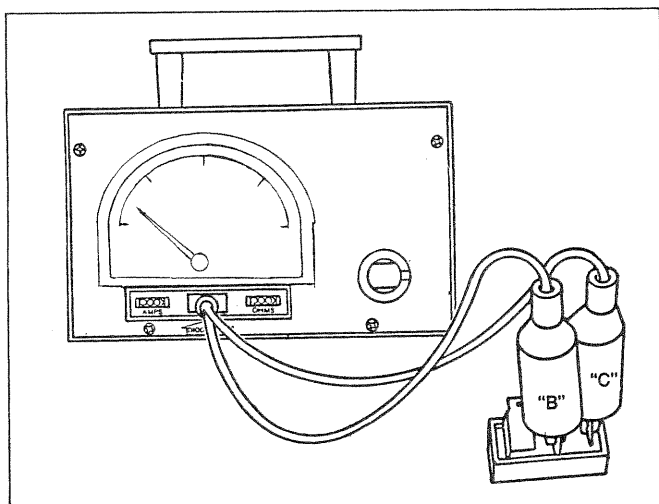

Figure 194. Testing the ISD Module
- See Figure 194. Now, attach the VOM positive (+) test lead to test point "B" and the common (-) test lead to test point "C". There should be no movement of the VOM needle. Reverse the test leads and, again, there should be no needle movement.